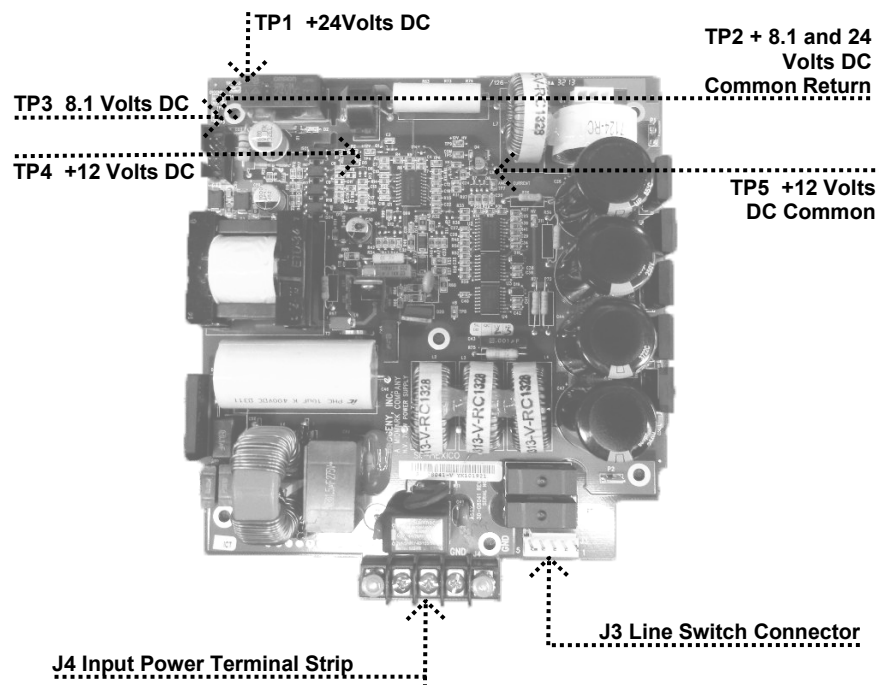

Figure 54
1. On the Power Supply Board 30-08041, check for the presence of 100 to 230 volts AC at J4, the Input Power Terminal Strip, as shown in *Figure 54*. If power is absent, check that the Preva is connected to line power.
2. On the Power Supply Board 30-08041, measure incoming power at J3, the Line Switch Connector, as shown in *Figure 54*. Positions 2 and 4 carry the line voltage before the Line Switch, and positions 1 and 3 carry the line voltage after the Line Switch. Voltage at the input side of the switch, but not at the output, requires replacement of the Line Switch E1-19000.
6. On the Power Supply Board, use TP2, as a common test point, and check TP1 +24 volts DC and TP3 8.1 volts DC, as shown in *Figure 54*. Then use TP5 as the common return to check TP4 for the presence of +12 volts DC. Should any of these voltages not be present, replace the Power Supply Board. If each voltage is present, inspect the condition of the ribbon cable between the Power Supply Board and the Logic Board. If the cable is undamaged and seated properly, replace the Logic Board.